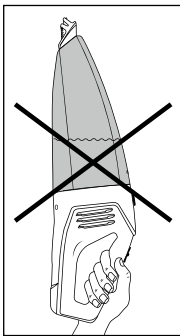

Fig. 4
- ▶ If you carry the appliance horizontally or with the wet suction nozzle **1** pointing upwards, it is possible that liquid can leak out (see fig. 4 and 5):